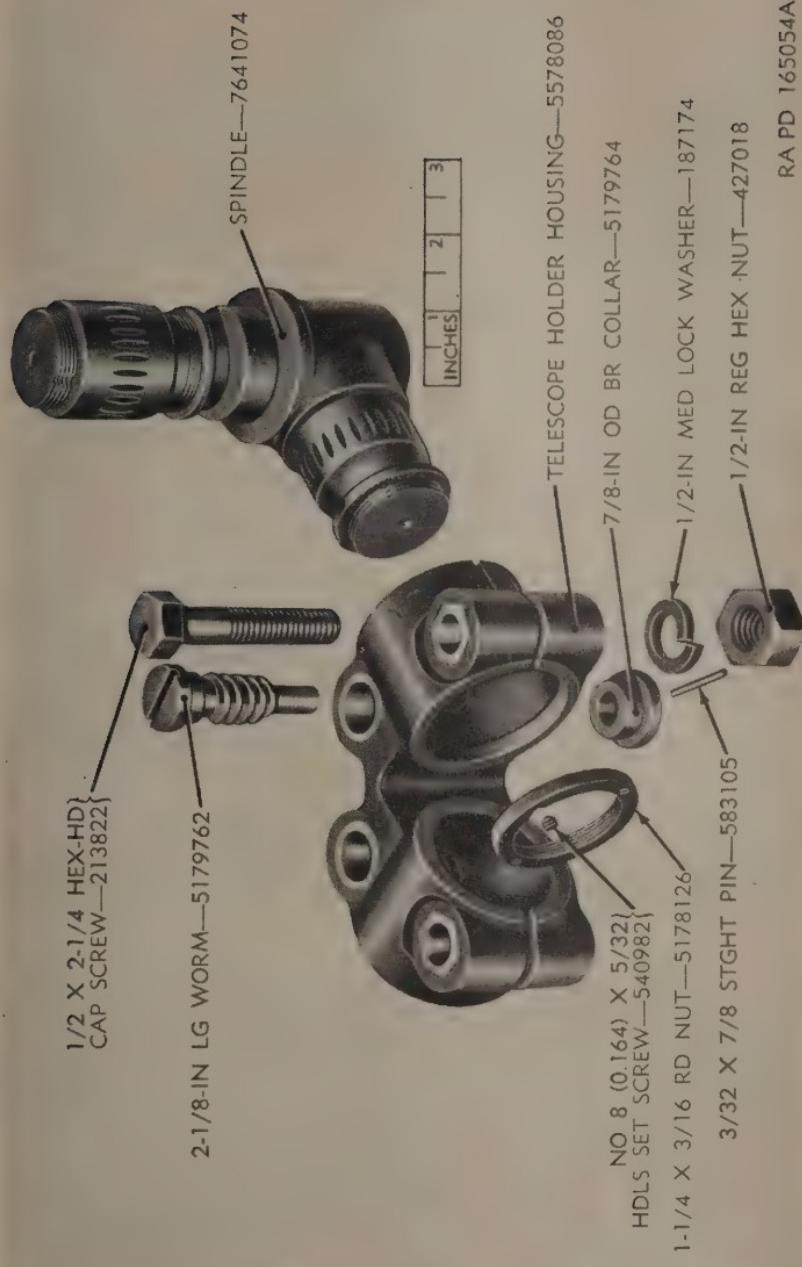

Figure 80. Telescope mount M71—removal of the spindle from the telescope holder housing.
(fig. 80)
c. Insert a $\frac{1}{2}$ x $2\frac{1}{4}$ hex-head cap screw (fig. 80) into the telescope holder housing. Slide a $\frac{1}{2}$ -inch medium lockwasher on the cap screw. Screw a $\frac{1}{2}$ -inch regular hex nut on the cap screw. Tighten the cap screw and hex nut. This clamps the spindle securely in the telescope holder housing.